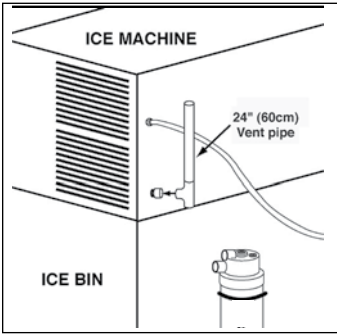

Figure 4
- Use a T connector to install a vent pipe, or vacuum breaker, at least 24 inches (60 cm) in length as close as possible to the sump drain exiting the ice machine (Figure 4)